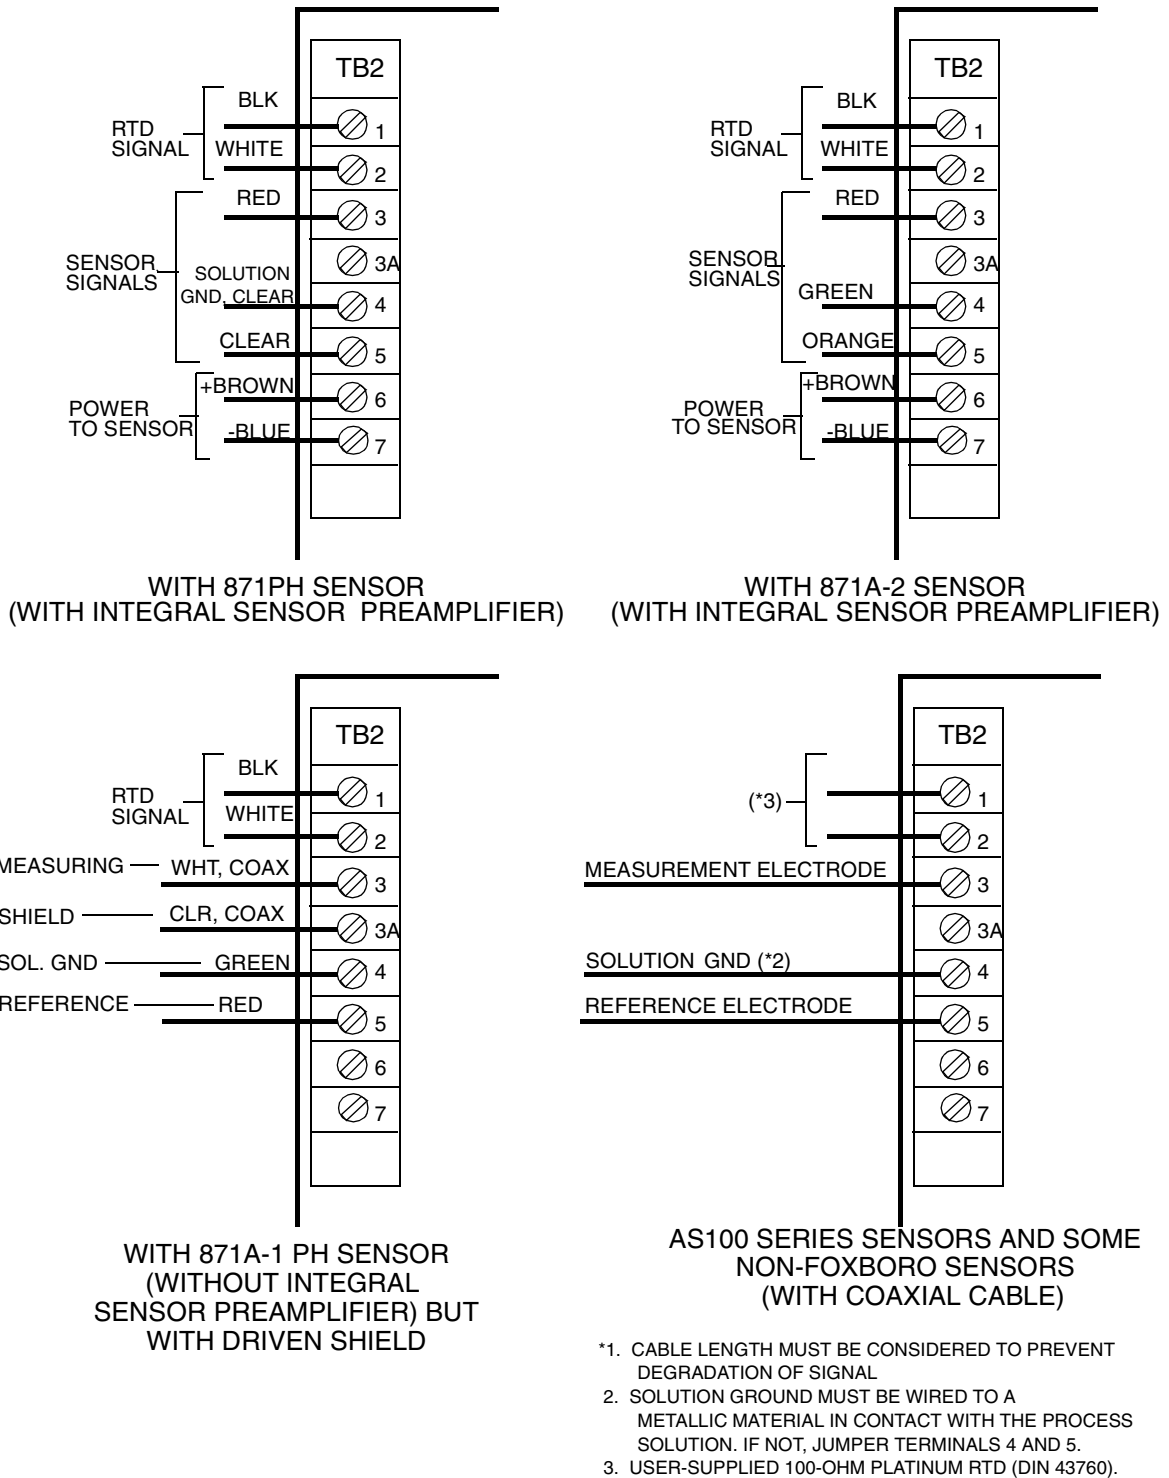

Figure 11. Plastic Enclosure Rear Panel Wiring for Sensor
5. Connect sensor wires to Analyzer terminal block (TB2) in accordance with Figure 11.